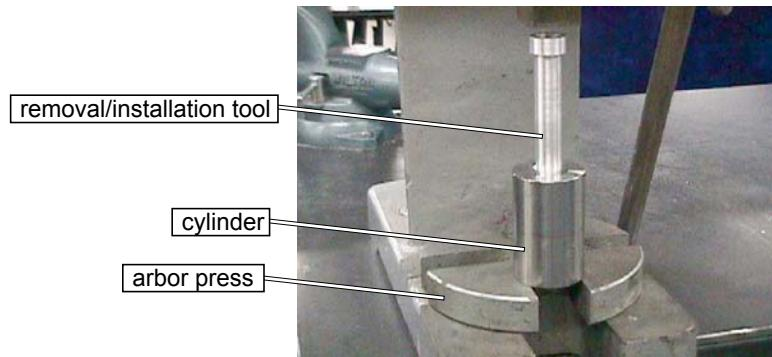

Figure 6-10
4. Using the **removal/installation tool** (Figure 6-10), push the **sealing assembly** (displacer, retainer and seal assembly, short seal ring, and backup-support ring assembly - Figure 3-10) out of the cylinder from the check valve assembly end toward the coolant housing assembly end using an Arbor press (Figure 6-10). Repeat for the remaining two cylinders.